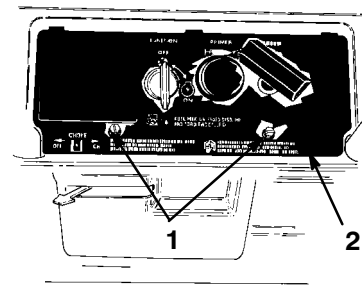

Figure 12
3. Remove the two screws that secure the control panel to the housing (Fig. 12).
1. Remove the two screws that secure the control panel to the housing (Fig. 12).